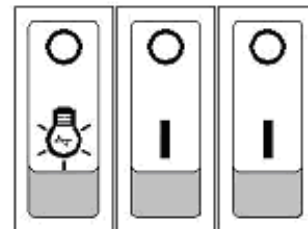

Fig.4
This model is fitted with a thermostat that is mounted on the left-hand side of the heater box control panel (see figure 4). It can be used to control the heat output to maintain a constant room temperature to suit user requirements. This will ensure that excessive heat is not produced unnecessarily.
- The first switch marked with a light bulb controls the lamp and flame effect as shown in Fig.4.